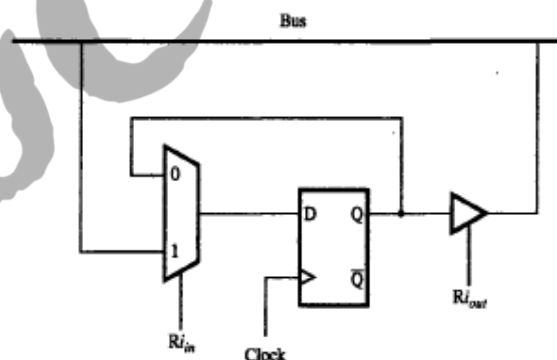

Figure 7.3 Input and output gating for one register bit.
- $R_{i\text{in}}=1$ $\square$ mux selects data on bus. This data will be loaded into flip-flop at rising-edge of clock. $R_{i\text{in}}=0$ $\square$ mux feeds back the value currently stored in flip-flop (Figure 7.3).